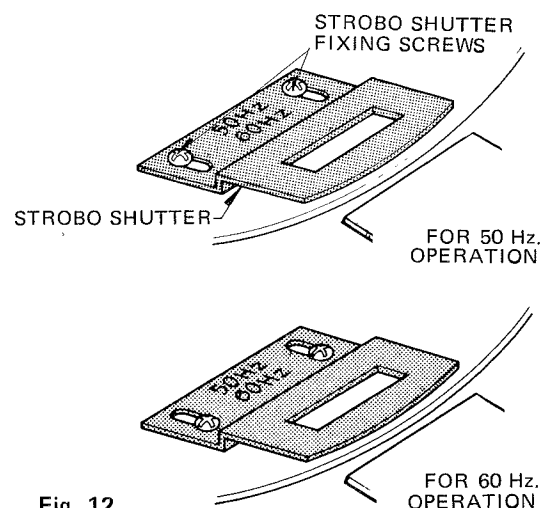

Fig. 12
2. It is also required to change the strobo shutter according to the frequency. Fasten the screw for the strobo shutter on the required frequency. (See Fig. 12)